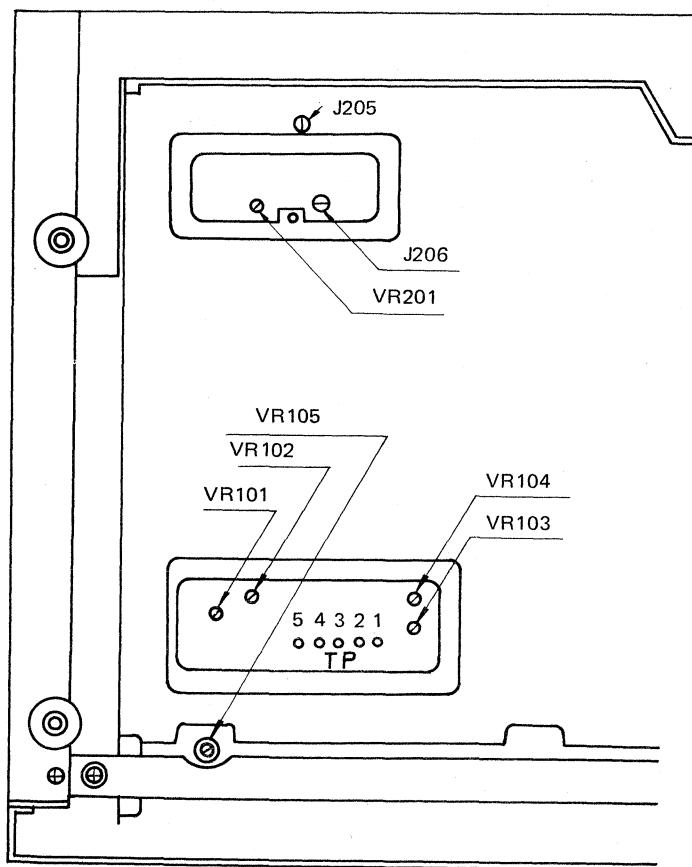

Figure 18
(1) Set digital volt meter to DC, 20V range, and connect its  $\oplus$  terminal to J205 and  $\ominus$  terminal to J206. (See Fig. 18)
## 4. Adjustment of Random Programing (See Fig. 18.)
5. Adjustment of sensor to detect designated and unmodulated groove to start play in program mode. (See Fig. 18.)